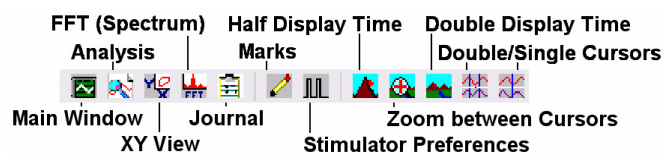

Figure FB-1-5: The **LabScribe** toolbar.
- 2 Use the **Display Time** icons on the **LabScribe** toolbar (Figure FB-1-5 on page FB-1-3) to adjust the **Display Time** of the **Main window** to show the complete calibration data on the **Main window**. The required data can also be selected by:
- 3 Click the **Double Cursor icon** (Figure FB-1-5 on page FB-1-3) so that two blue cursors appear on the **Main window**. Place one cursor on the flat section of data collected when no weight was attached to the FT-104, and the second cursor on the flat section of data collected when the pennies were attached to the transducer.
- Clicking the **Zoom between Cursors** button on the **LabScribe** toolbar (Figure FB-1-5 on page FB-1-3) to expand or contract this section of recording to the width of the **Main window**.
- 3 Click on the **Analysis window** icon in the toolbar (Figure FB-1-5 on page FB-1-3) or select **Analysis** from the **Windows menu** to transfer the data displayed in the **Main window** to the **Analysis window**.